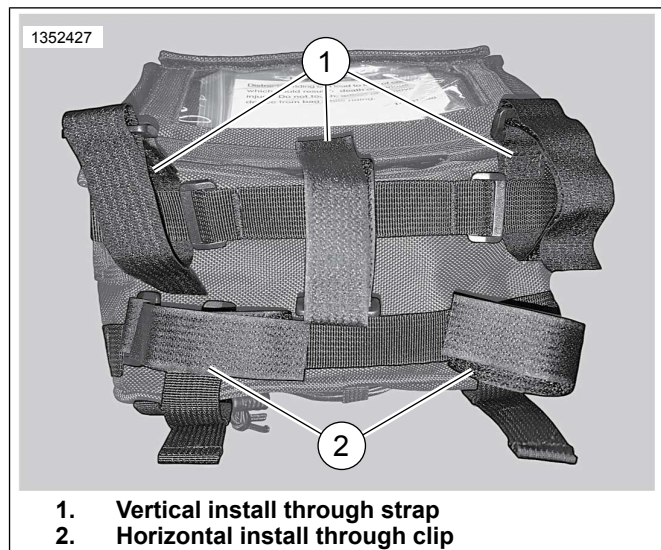

Figure 2. Hook-and-Loop Attachment Options
1. See Figure 2. Attach a minimum of four hook-and-loops to back of bag.